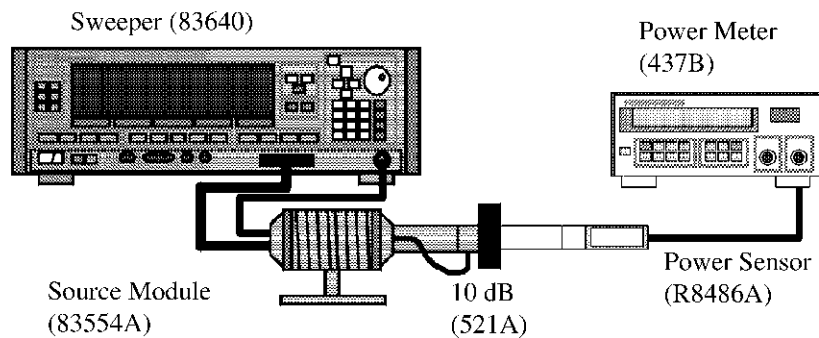

Figure 6-2 Setup of Source Module Calibration
2. Connect equipment as shown in Figure 6-2.